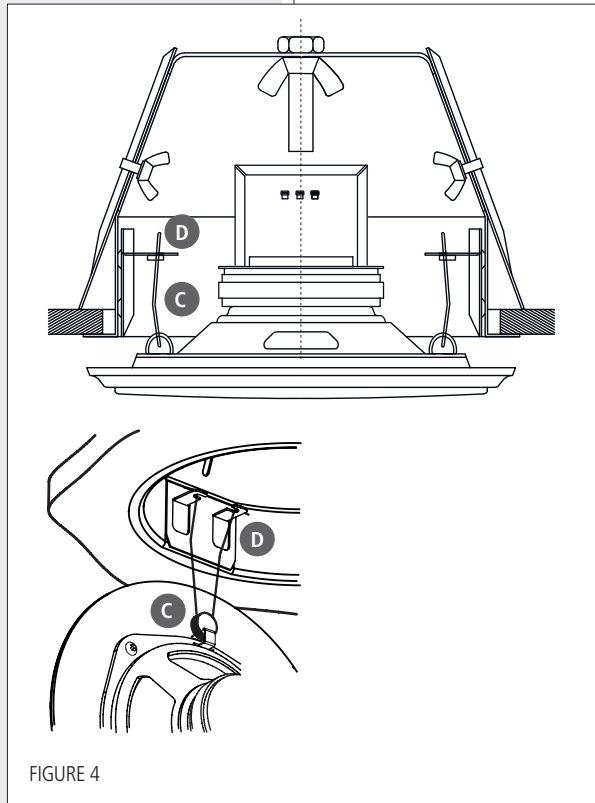

FIGURE 4
5. Hang the speaker into the fire dome, fitting the ends of one of the two support springs **C** on the speaker into one of the hooks **D** on the fire dome (as shown in figure 4).